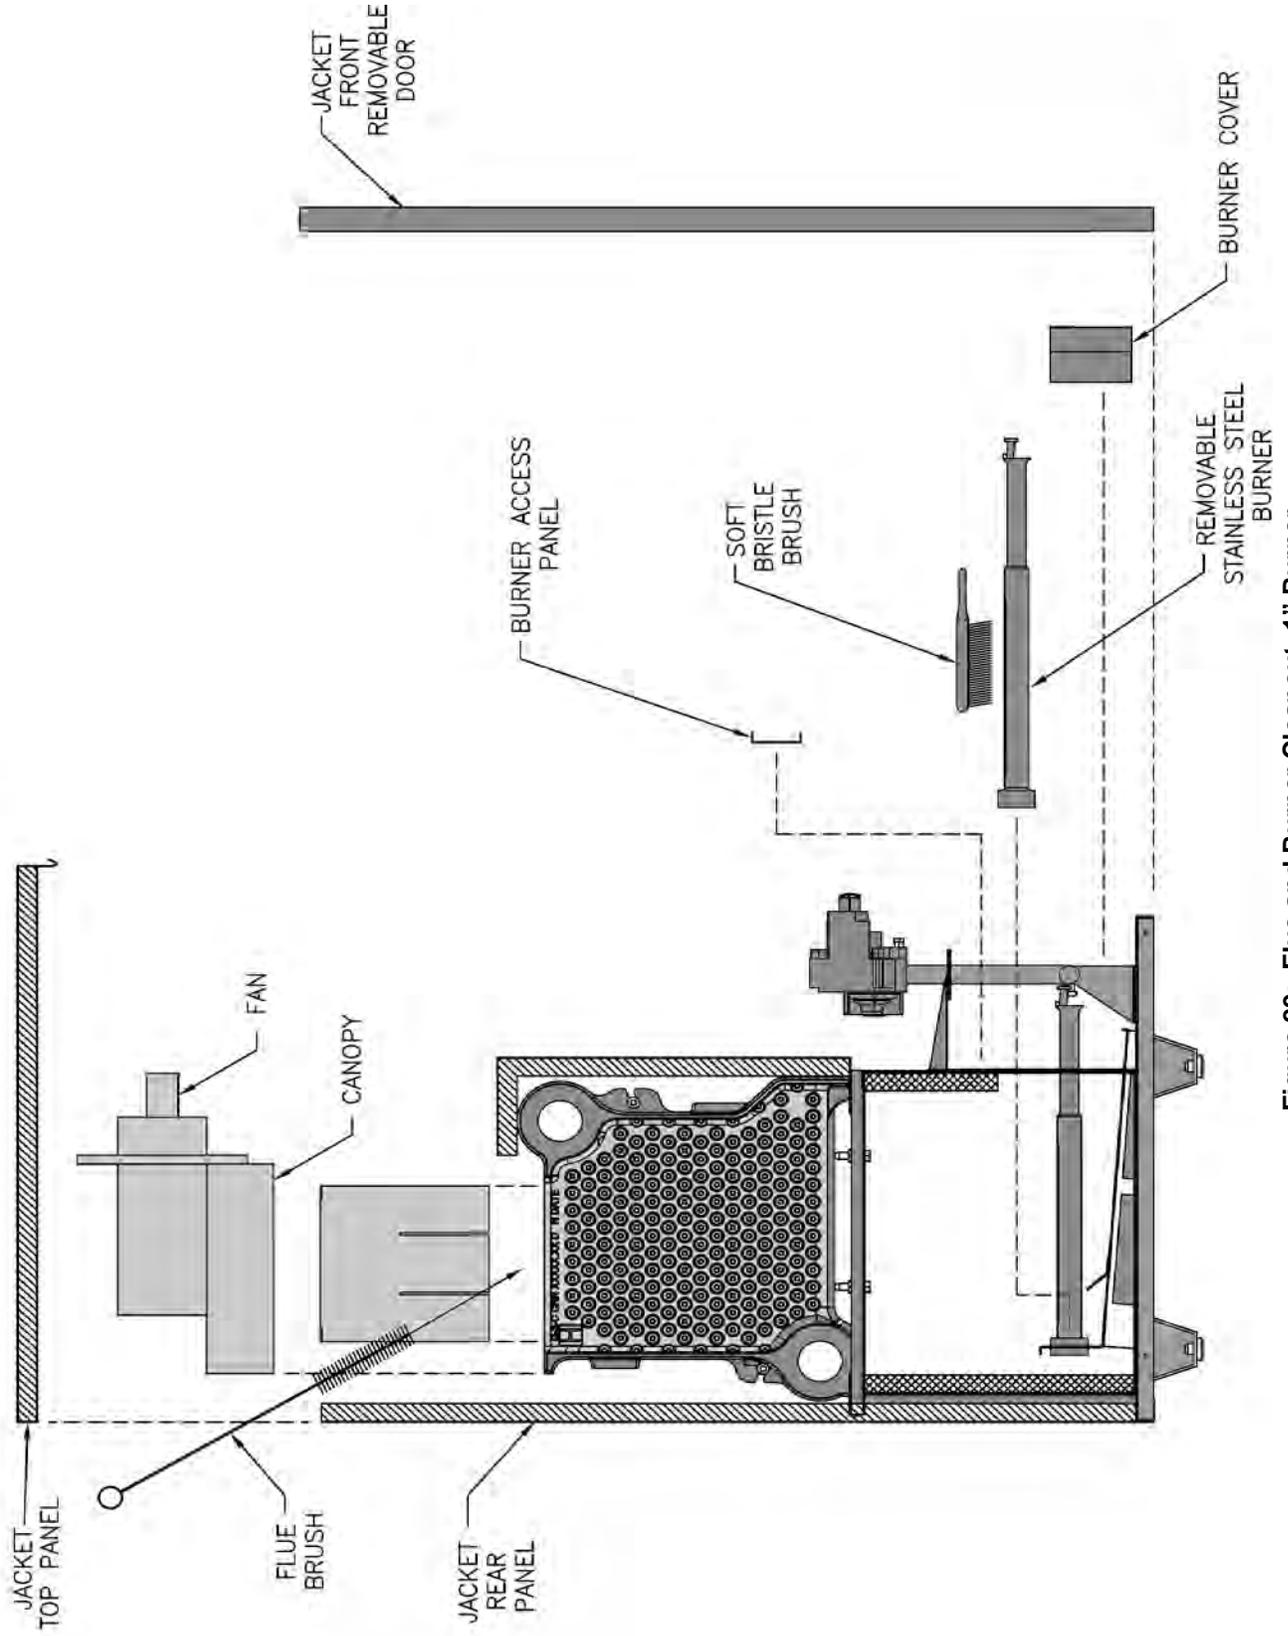

Figure 29: Flue and Burner Cleanout, 1" Burner
1. Remove Main Burners. See Figure 29.
- a. Loosen the (4) screws from Canopy.
8. Inspect flue passages. Clean with flue brush. See Figure 29.
2. Clean main burners. Brush top of burners with soft bristle brush. See Figure 29. Vacuum to remove any dirt and lint.
- b. Main burners must be properly secured in burner tray slot at rear of firebox and over gas orifice. See Figure 29.